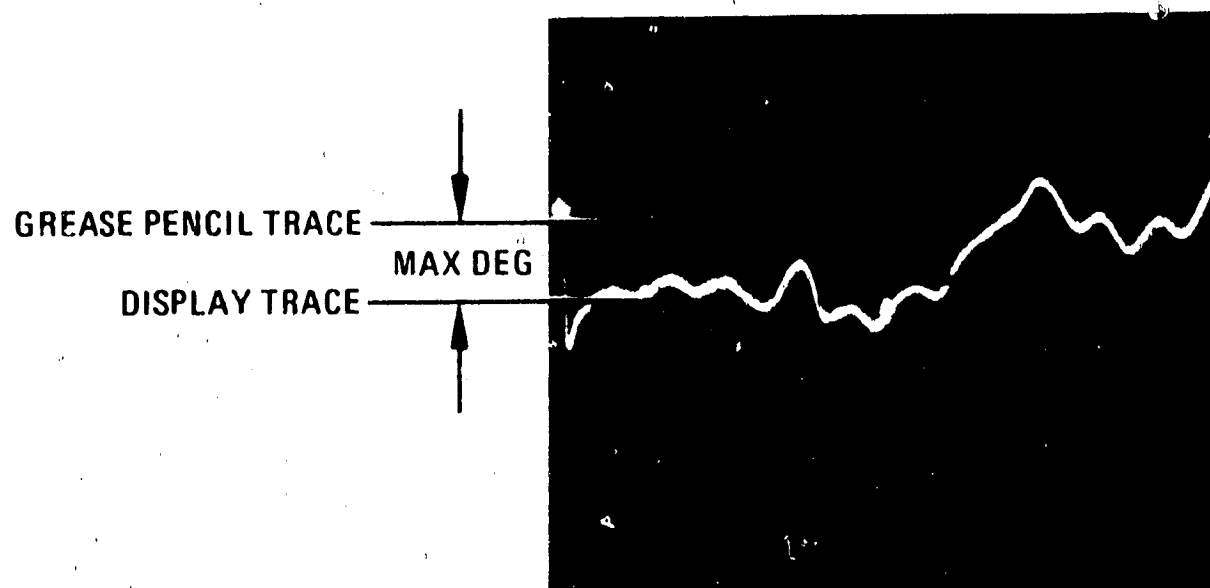

Figure 4-6. Reflection Frequency Response Phase
- (1) On 8505A Signal Processor Electrical Length, press the LENGTH pushbuttons and adjust VERNIER A control to position average slope of trace parallel to horizontal graticule lines.
- (2) On 8505A Signal Processor Channel 2 press MKR then ZRO pushbuttons.
- (3) On 8505A Signal Processor Channel 2 press the REF OFFSET pushbuttons to center the display around the grease pencil trace.
- (4) Measure the maximum difference between the grease pencil trace and the display trace (Figure 4-6). This measured value should be  $\leq \pm 20^\circ$  for the 0.5 to 1300 MHz frequency range.
- (1) Repeat steps l (1) through l (3).
- (2) Measure the maximum difference between the grease pencil trace and the display trace (Figure 4-6). This measured value should be  $\leq \pm 15^\circ$  for the 2 to 1300 MHz frequency range.
- (3) Connect 8503A port B to 8505A INPUT A. Set S-PARAMETER SELECT switch to REVERSE and repeat steps l (1) through l (3).
- (4) Measure the maximum difference between the grease pencil trace and the display trace. This measured value should be  $\leq \pm 15^\circ$  (2 to 1300 MHz).
- (5) Remove grease pencil trace from CRT.